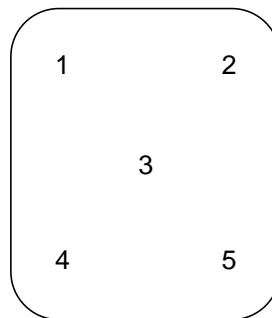

FIGURE 1 - MEASUREMENT POINTS
- 5.11.4.4.1 In order to assure a consistent method of measurement and reliable results, each window shall be measured in five separate locations (see Figure 1). Each of these points shall be measured after each repair operation, and the results printed out and retained for reference. Maintain a thickness measurement log for each window and this log should be readily available upon Bombardier Aerospace's request.